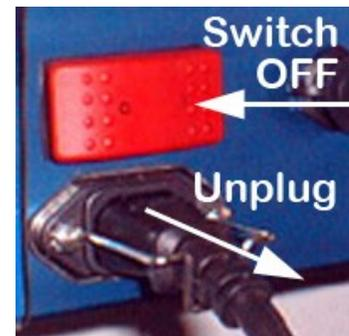

Fig. 1 — Switch OFF and unplug power.
1. **Switch OFF power (Fig. 1), and unplug the power cord** before working on the machine.